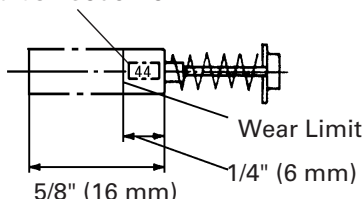

Fig. 13
2. Inspecting the carbon brushes (Fig. 13 and 14).
Therefore, inspect the brushes periodically, and replace them when they have become worn to the wear limit line, as shown in Fig. 13.